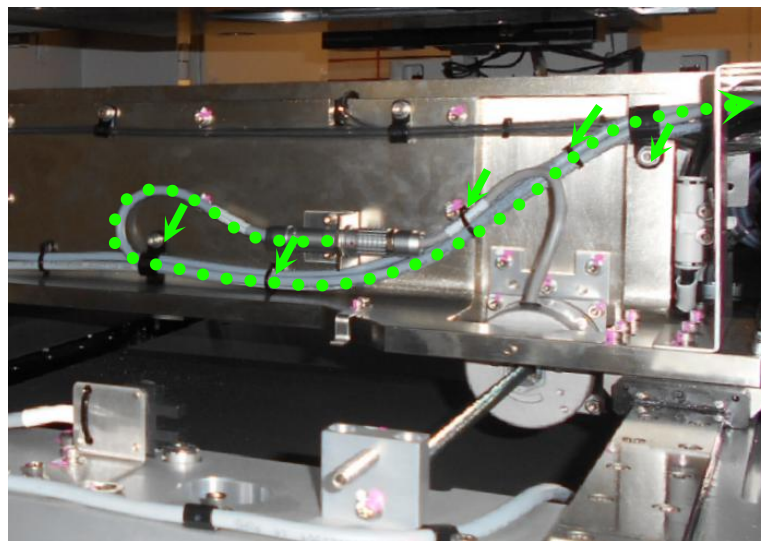

Figure 31 Stepper Motor Cable Routing
33. Gently route the Stepper Motor Cable as below Figure 31. Secure the cable with Cable Clamp as well.